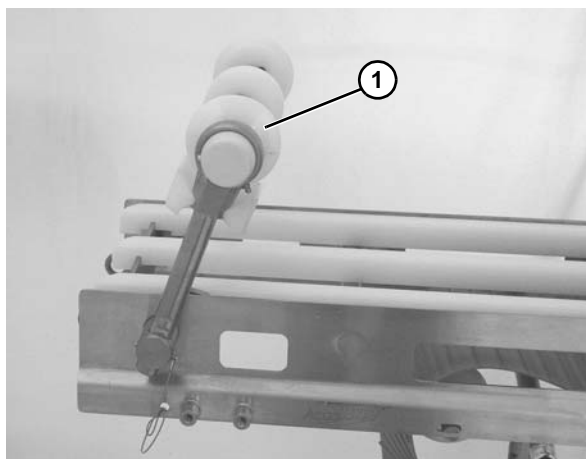

Figure 8
4. Place the idler tail (Figure 8, item 1) in the up position.